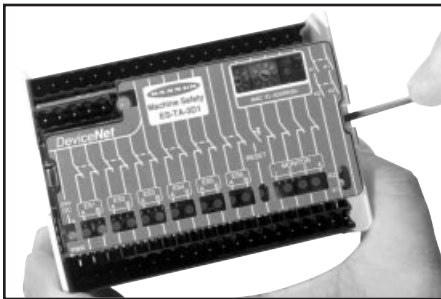

Figure 11. Remove the module cover.
- 2) Remove the module cover by placing the blade of a small flat-blade screwdriver in the slot located at either end of the cover, and gently prying the cover open (Figure 11). The cover is not hinged; it will come completely off.